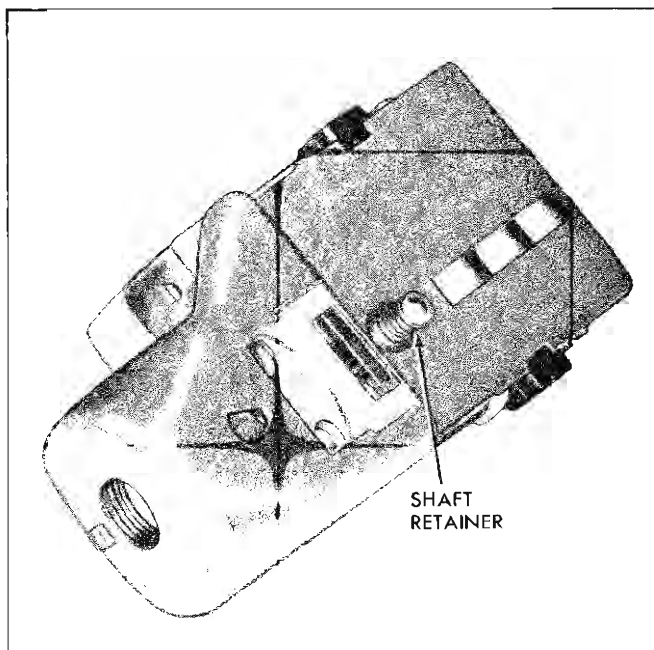

Fig. 11—Lighting Switch Shaft Retainer
3. Reach under instrument panel and depress the switch shaft retainer (fig. 11) and remove knob and shaft assembly.